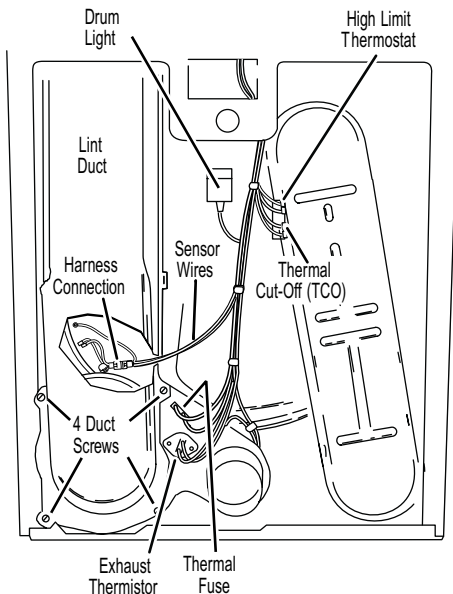

Figure 10. Thermal components, viewed from rear.
Locate the components using Figure 1 and Figure 10.
5. Locate the high limit thermostat. See Figure 10. Measure the continuity through it by connecting the meter probes on the red wire and blue wire terminals.
- Check wire connections at the machine control electronics and thermistor. See Accessing & Removing the Electronic Assemblies, and for thermistor location see Figure 10.
2. Access the thermal fuse by first removing the back panel. See Removing the Back Panel, and for thermal fuse location see Figure 10.
3. Using an ohmmeter, check the continuity across the thermal cut-off. See Figure 10 for location.
- Remove the four screws from bottom of the duct in rear. See Figure 10.